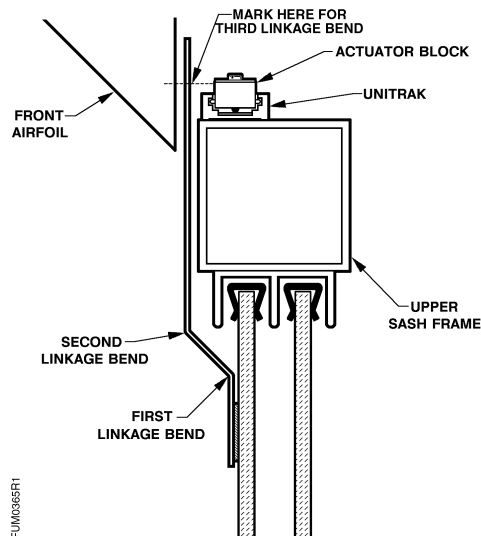

Figure 22. Marking the Final Linkage Bend.
8. **Final Linkage Bend**—Place linkage against sash, mark where the linkage aligns with the actuator (Figure 22).